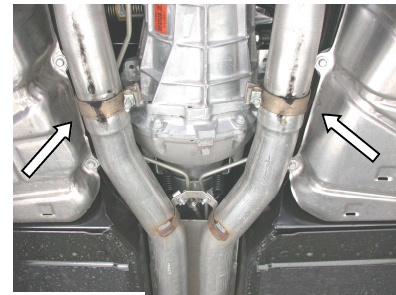

Figure 1
1. Loosen the clamps shown in figure 1 located just under the transmission at the rear of the vehicle.